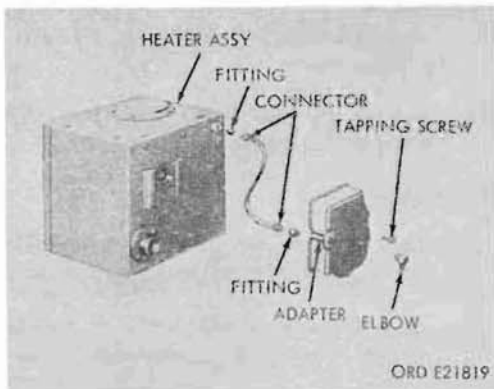

Figure 384. Adapter to heater fuel line
- (3) **Fuel pump.** Install lines and fittings on fuel pump, securing fuel pump and electrical connector to van body front wall with three slotted, panhead, machine screws, split lockwashers, and plain hex-nuts (fig. 384). Install fuel pump cover and connect fuel pump power input plug to input socket (fig. 383).
- (4) **Fuel pump-to-adapter line and fittings.**